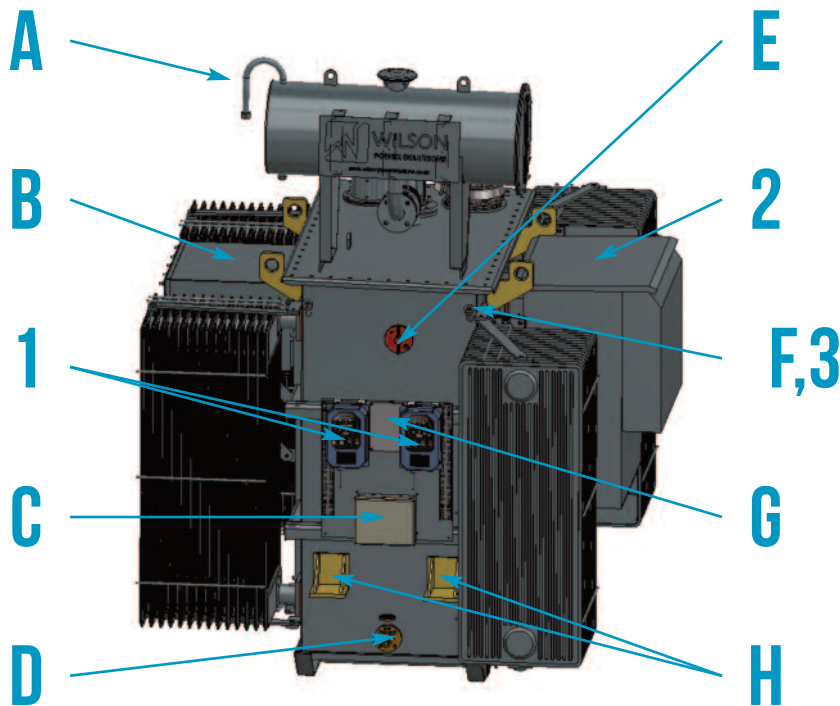
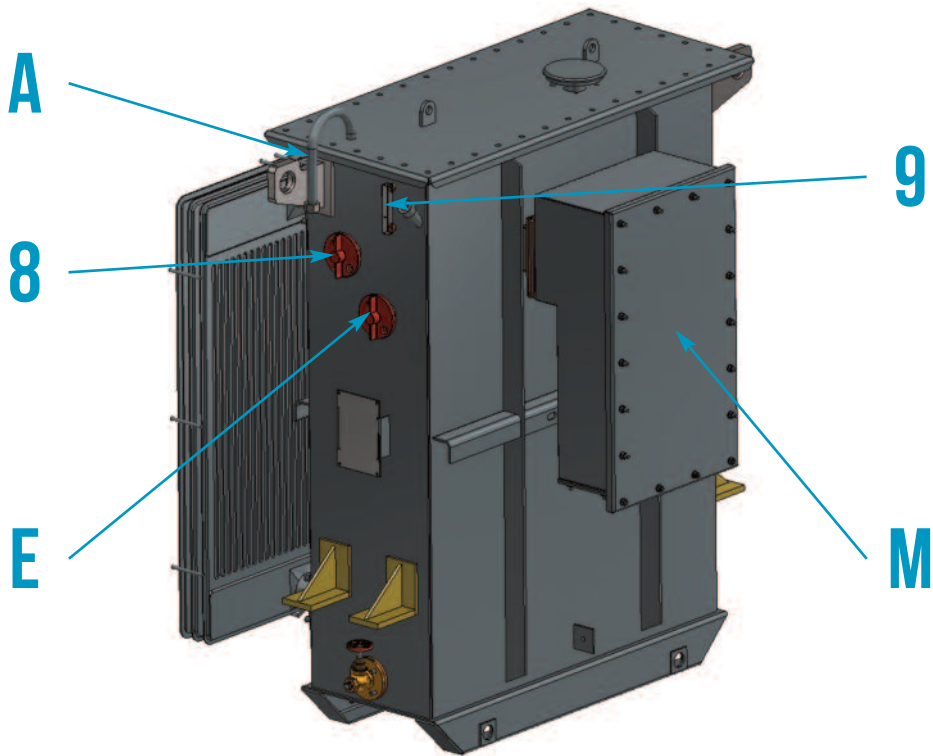

Figure 1a - Transformer View from Tap Switch End
Figure 2 - Dual Ratio Transformer
- A.** Connection point for air dehydrating breathers (Figure 1a)
- B.** LV connection (standard cable connection) (Figure 1a)
- C.** Marshalling Box (Figure 1a)
- D.** Drain valve (Figure 1a)
- E.** De-energised tap-changer (Figure 1a & Figure 2)
- F.** Thermometer pocket (Figure 1a)
- G.** Rating plate (Figure 1a)
- H.** Jacking points (Figure 1a)
- M.** HV connection (standard cable connection) (Figure 2)
- 1.** Oil temperature indicator (OTI)/ Winding temperature indicator (WTI) (Figure 1a)
- 2.** Ring main units/ACB/ other connections (Figure 1a)
- 3.** Thermometer, to install on the thermometer pocket (Figure 1a)
- 8.** Off circuit dual ratio changer (Figure 2)
- 9.** Oil level indicator (Figure 2)